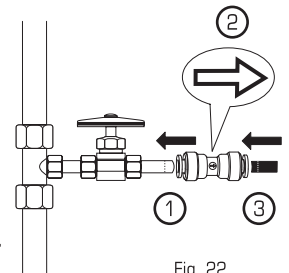

Fig. 22
6. Connect the tube from the cold water supply to the screen side of the Supply Connector ①. Arrow in balloon shows water flow direction ②. Insert the RED tube attached to the Auxiliary Faucet into the opposite end of the Supply Connector ③ (Fig. 22).